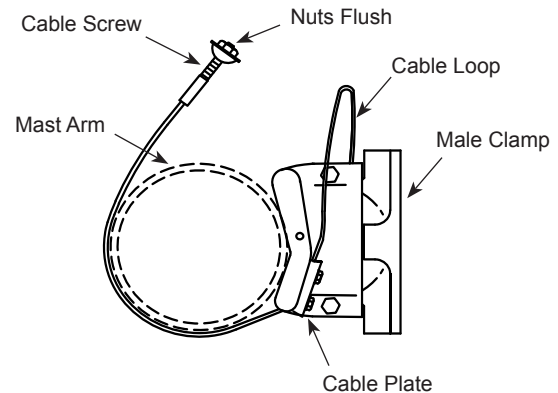

Figure 1
1. Loosen the eight (8) 5/16" bolts on the cable plates.
2. Adjust the nuts flush to the top of the cable screw as shown. (Figure 1)
3. Feed the wiring from the mast arm through the center of the clamp kit and position on the mast arm as desired. (Figure 1)